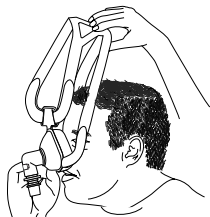

Figure 2
1. Hold the mask lightly against your face, and slide the headstrap over your head (Figure 2).